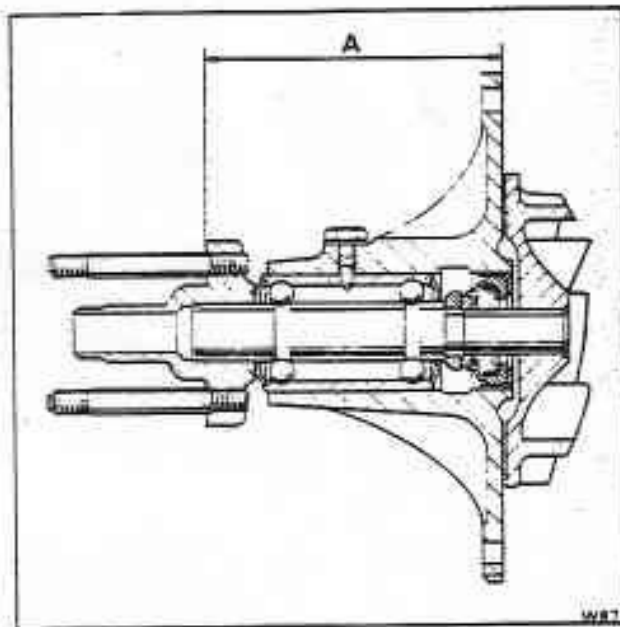

Fig. L4-6 Pulley flange pressed onto shaft (Type A)
14. If the pulley mounting flange has been removed, smear both the flange and shaft mating surfaces with Retinax A grease or its equivalent. Press the flange onto the shaft to the dimension given in figure L4-6. A load of at least 612 kgf (1350 lbf) should be required to press the flange onto the shaft to ensure the correct interference fit.